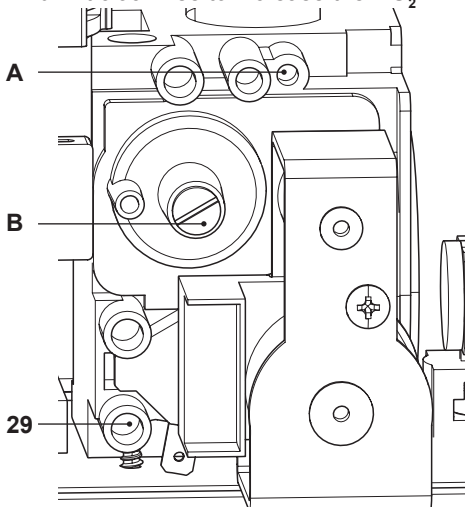

Figure 7.8
- With the boiler turned off (not in service), check the supply pressure using the tapping point 29 in Figure 7.8 and compare the value read with those shown in the gas supply pressure table in section "Technical data M270V.2025 SM" on page 22.
- Fully close the tapping point 29 in Figure 7.8.
- To calibrate the boiler CO_2 (gas pressure at the burner) unscrew the protective brass cap B completely and turn the underlying Ø 4 mm Allen screw Figure 7.8. Turn it clockwise to increase the CO_2 .
- If the two values do not coincide, turn the RQ maximum adjustment screw (A in Figure 7.8) for the gas valve and calibrate the **CO₂** to the same value specified in the section “Technical data M270V.2025 SM” on page 22. Turn it clockwise to decrease the **CO₂**.